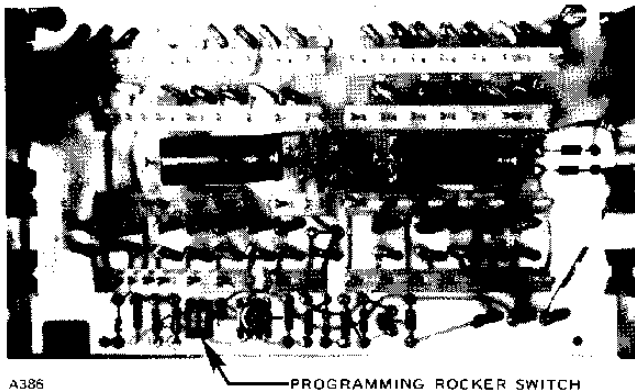

Figure 4—Auxiliary Zone Unit "Mother" Board
- 2) "Mother" board - The "mother" board (Figure 4) contains the circuitry that controls the voting relay and a rocker switch assembly to pre-select the number of responding zones required to meet voting criteria (see "Installation" section). Electrical contact pins for plugging in the zone boards are also provided on this board.